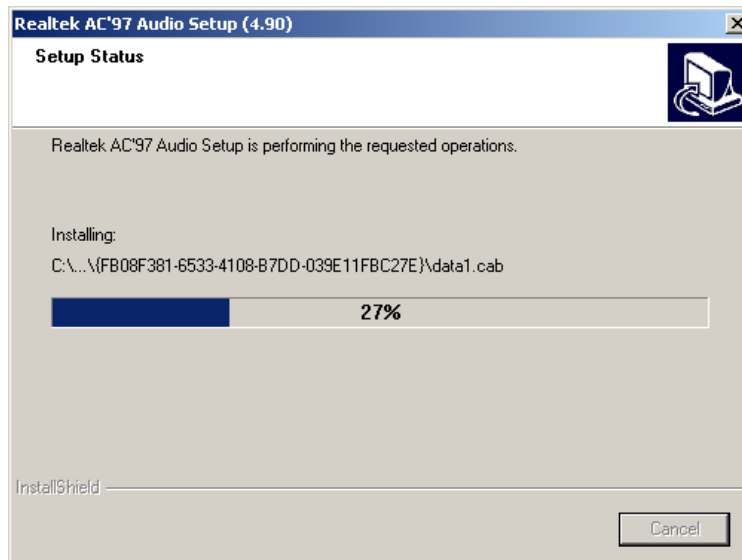

Figure 7-45: Audio Driver Software Configuration
Step 11: **InstallShield** starts to install the new software as shown in **Figure 7-45**.